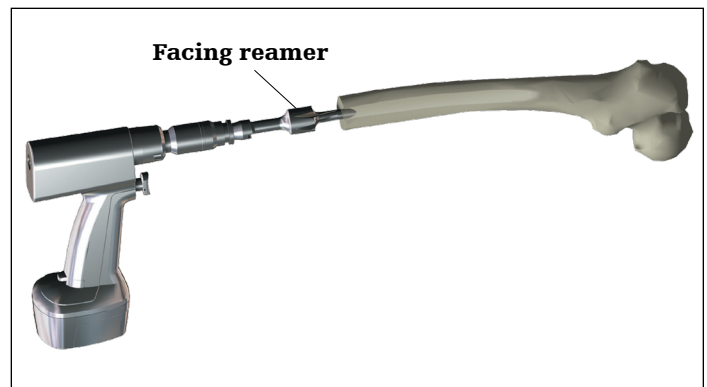

Figure 7
- ▶ **Surgical tip:** It is preferable to resect the femur a millimeter or two distal to the marked resection level. This will allow the facing reamer (**Figure 7**) to plane accurately up to the mark at a 90° angle.
The appropriate Facing Reamer (**Figure 7**) is used to plane the osteotomy site so as to facilitate direct contact and accurate seating of the prosthesis upon the cortices.